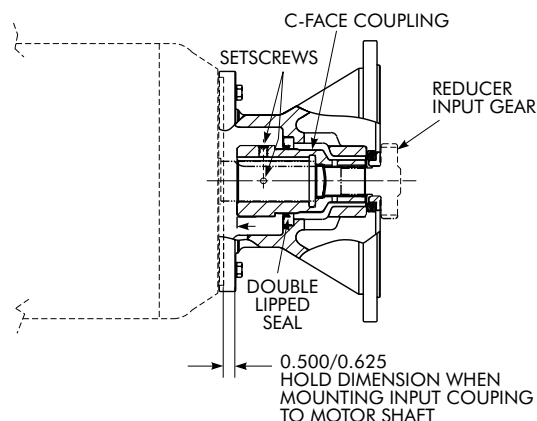

Figure 2.3.4a
2. For quintuple reductions locate the C-face coupling 0.500 to 0.625 inches from the motor face (**Hint:** Standard 1/2" to 5/8" keystone is helpful for this purpose). Refer to the illustration in Figure 2.3.4a.